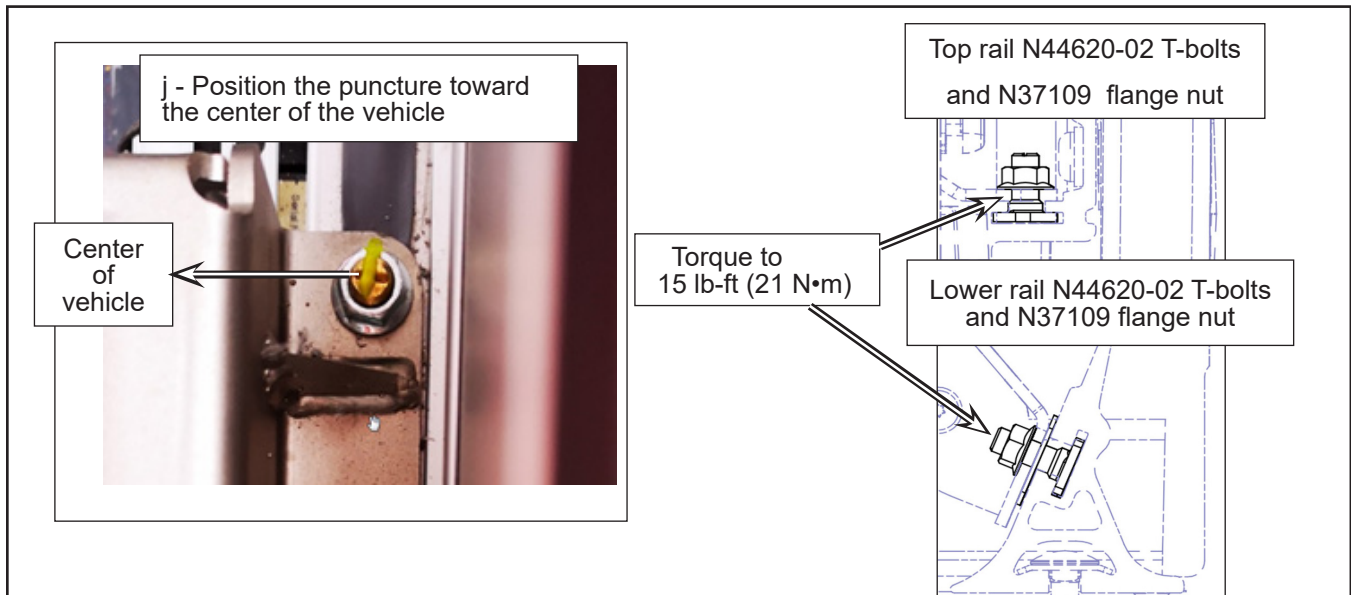

Figure 8 - T-bolt Puncture Alignment and Torque Value
- i. Hand tighten the N37109 serrated flange nuts on all the T-bolts that affix the removed seat(s) to the upper and lower anchor rail. Make sure the puncture in the T-bolts is facing the center of the vehicle. See Figure 8.
- m. Push the N8910246-BS L-bracket toward the upper anchor rail, make sure there is full contact between the L-bracket and the upper anchor rail, and torque the N37109 serrated flanged nut. See Figure 8 for torque value.
- n. With a torque wrench, torque the T-bolts on the lower rail See Figure 8 for torque value.